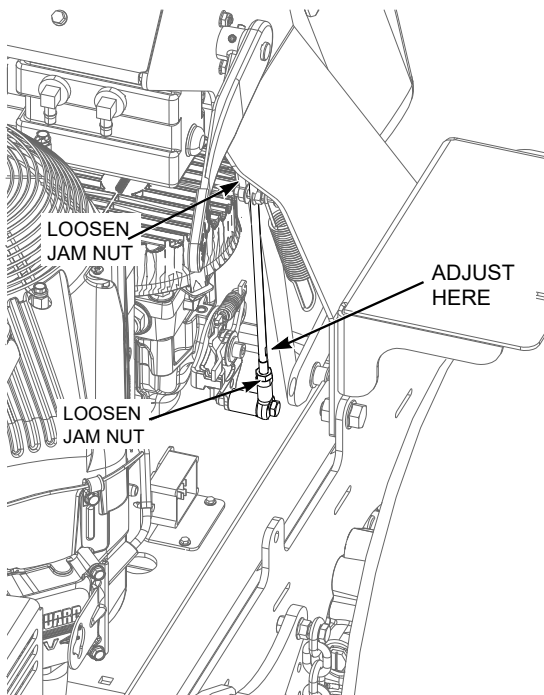

Figure 6-2. Tracking Adjustment (Left Side Shown)
4. Adjust the LH wheel by loosening the jam nuts on the steering control rod and turning the rod until the drive wheel turns in the forward direction. Turn the rod back until the drive wheel stops moving. Turn the rod an additional 1/2 turn. See Figure 6-2.
A. Stop the machine and place the steering control levers in the neutral position. Loosen the lock nuts securing the ball joints at each end of the LH steering control rod. Rotate the control rod to lengthen the rod and tighten the lock nuts. This will cause the control rod to stroke the LH pump less, slowing down the LH wheel. See Figure 6-2.
levers in the neutral position. Loosen the lock nuts securing the ball joints at each end of the RH steering control rod. Rotate the control rod to lengthen the rod and tighten the lock nuts. This will cause the control rod to stroke the RH pump less, slowing down the RH wheel. The same adjustment is used for the RH side as shown in Figure 6-2.